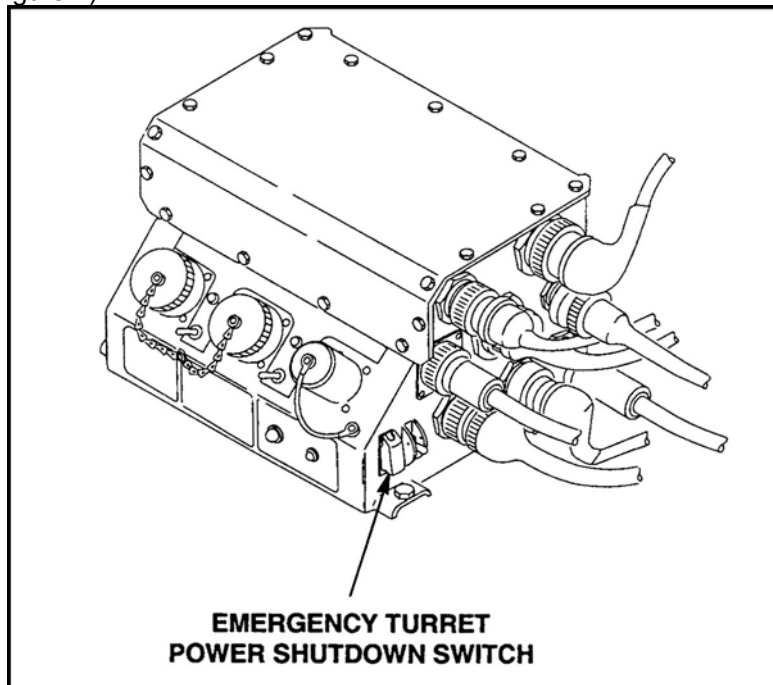

Figure 1. Emergency turret power shutdown switch.
- b. Ensure that the emergency turret power shutdown switch on the vehicle distribution box (VDB) is OFF (Figure 1).